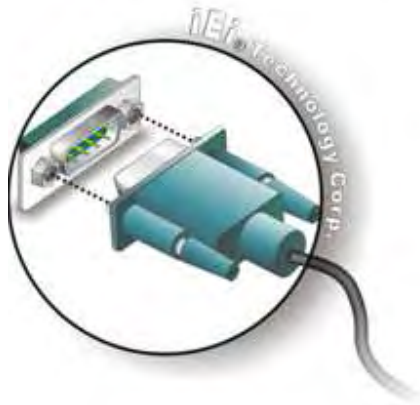

Figure 3-19: Serial Device Connector
- Step 2:** **Insert the serial connector.** Insert the DB-9 connector of a serial device into the DB-9 connector on the bottom panel. See **Figure 3-19**.